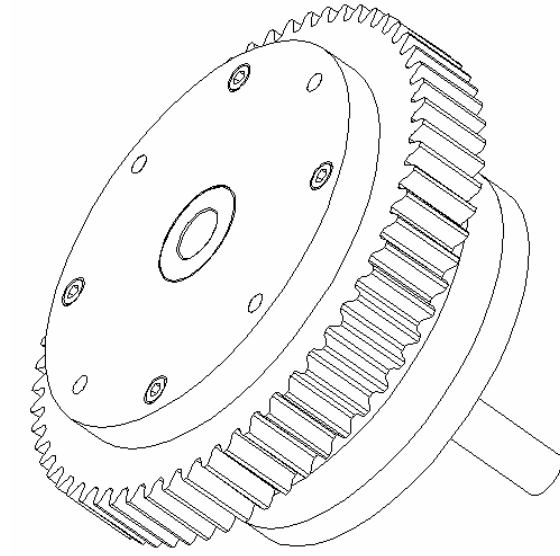

Figure 8
16. Final Planetary system is shown in figure 8.